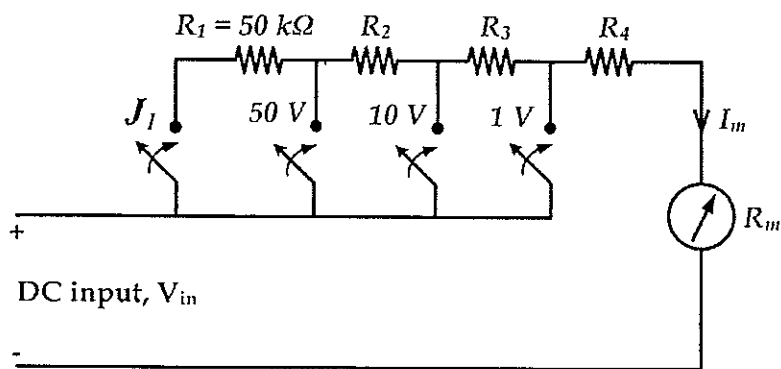

Figure 2.1: Multirange Voltmeter
- (b) Figure 2.1 shows a voltmeter movement with an internal resistance, R_m of 50Ω and maximum internal current 1 mA is to be used for measurement voltage at four different range: $0 - J_1 \text{ V}$, $0 - 50 \text{ V}$, $0 - 10 \text{ V}$ and $0 - 1 \text{ V}$.